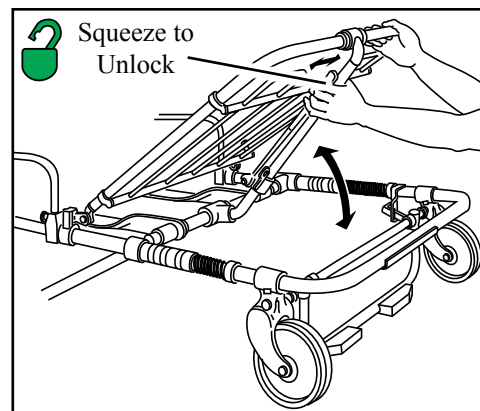

Figure 13 - Using the Backrest
- **To raise or lower the backrest from any other position**, use one hand to support and raise/lower the backrest while you squeeze and hold the adjustment lever with the other hand (Figure 13). When the backrest is at the desired height, release the adjustment lever and raise or lower the backrest to verify that it has locked into the new position.